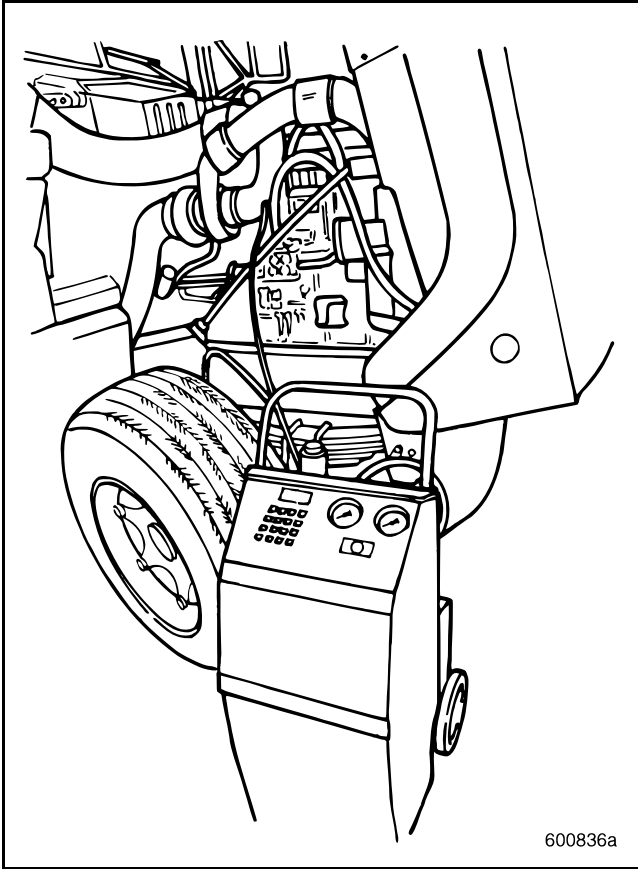

Figure 44 — Recovery-Recycling Station
1. Recover the A/C system refrigerant charge using a UL/SAE-approved recovery-recycling station similar to the unit shown in Figure 44.